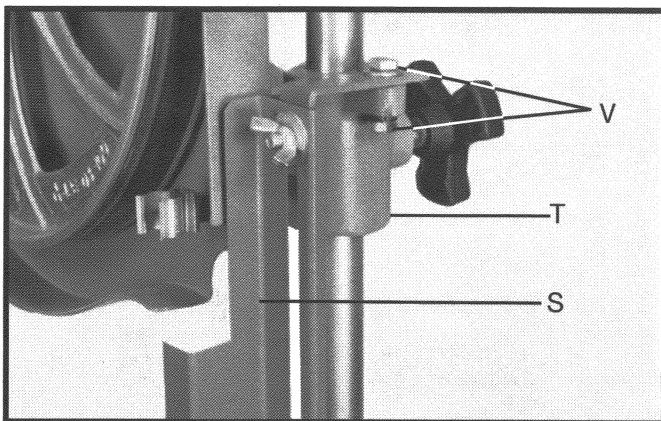

Fig. 12
11. Use the 1" screw, lockwasher, flat washer, and hex nut (V) to fasten the supplied guard assembly (S) to the arm assembly (T) of the machine (Fig. 12).